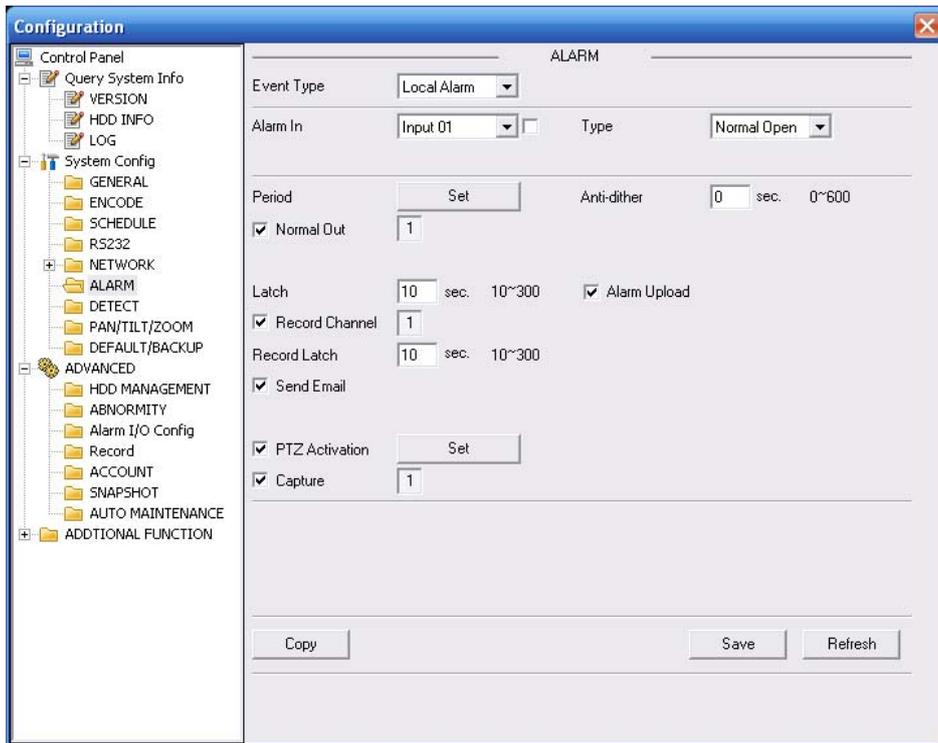

Figure 2-8
The alarm interface is shown as in Figure 2-8. Please follow the steps listed below for local alarm input and output connection.
- 3) Open the Web, go to the Figure 2-8. Please set the alarm input 01 port for the red-pin (the 1st channel) of MD9M converter cable. The alarm input 02 is for the orange-pin (the 2nd channel) of MD9M converter cable. Then you can select the corresponding type (NO/NC.)